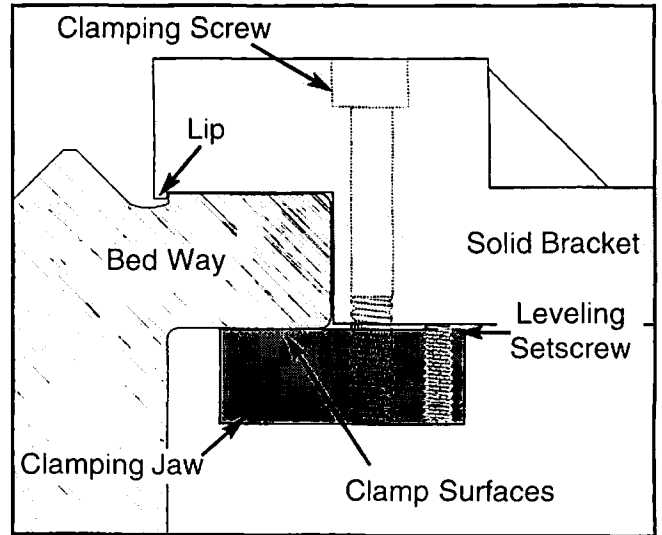

Figure 4. Components of the deadman.
12. The deadman attaches to the lathe bed by way of a clamp. **See Figure 4.** The deadman is composed of a solid cast bracket and a loose clamping jaw. The solid bracket has two holes for screws that attach the clamping jaw. It also has a lip that must extend beyond the flat surface area of the lathe bed way. The clamp jaw has two leveling setscrews that allow adjustments. These setscrews should be adjusted until the clamping surfaces of the clamping jaw and the bottom of the bed way are parallel when the clamping screws are tight. If these surfaces are not parallel, loosen the clamp screws and adjust the leveling setscrews again. Adjust as needed and tighten.